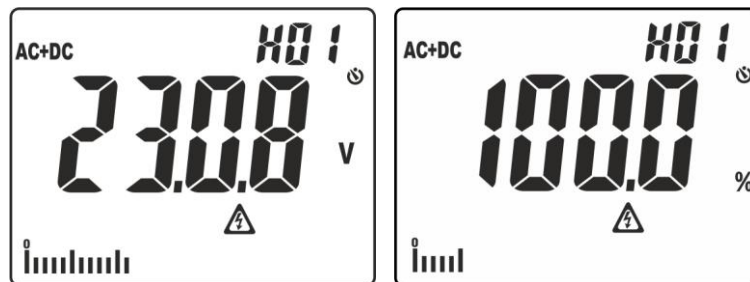

Fig. 3: Display of amplitude of harmonic analysis
- Simple pressing of the key to display the amplitude of voltage and current harmonics up to the 25th (**Hdc**, **H01... H25**) in absolute or percentage format in relationship with the fundamentals of input signals (for voltage values VAC > 0.5V and current values AC > 0.5A and frequency in the range 42.5Hz ÷ 69Hz) and the percentage value of parameter **THD%** (see § 9.3) as shown in Fig. 3. Use keys **▲/ZERO** and **▼/Ⓜ** to increase/decrease the order of the harmonic.